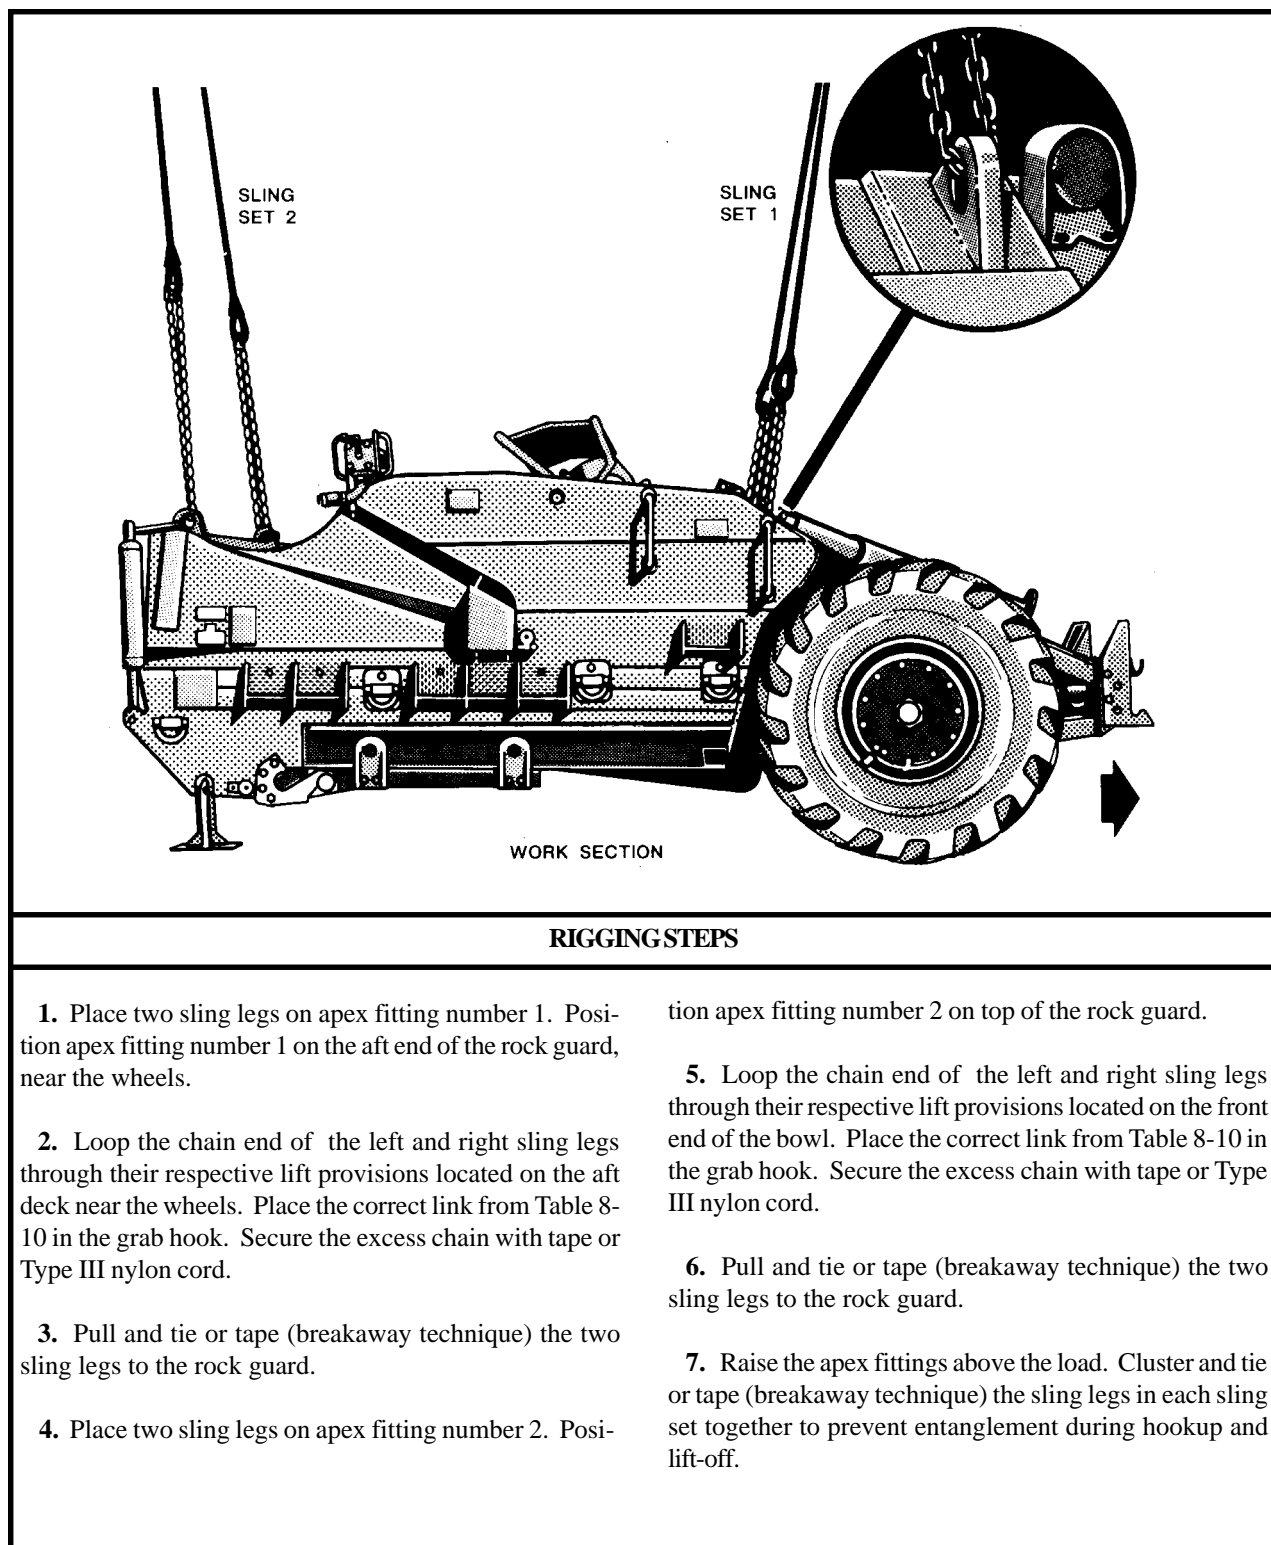

Figure 8-10. 613BS Scraper, Elevating, Sectionalized
(2) **Rigging.** Rig the load according to the steps in Figure 8-10.
(4) **Derigging.** Derigging is the reverse of the preparation and rigging procedures in steps d (1) and d (2).